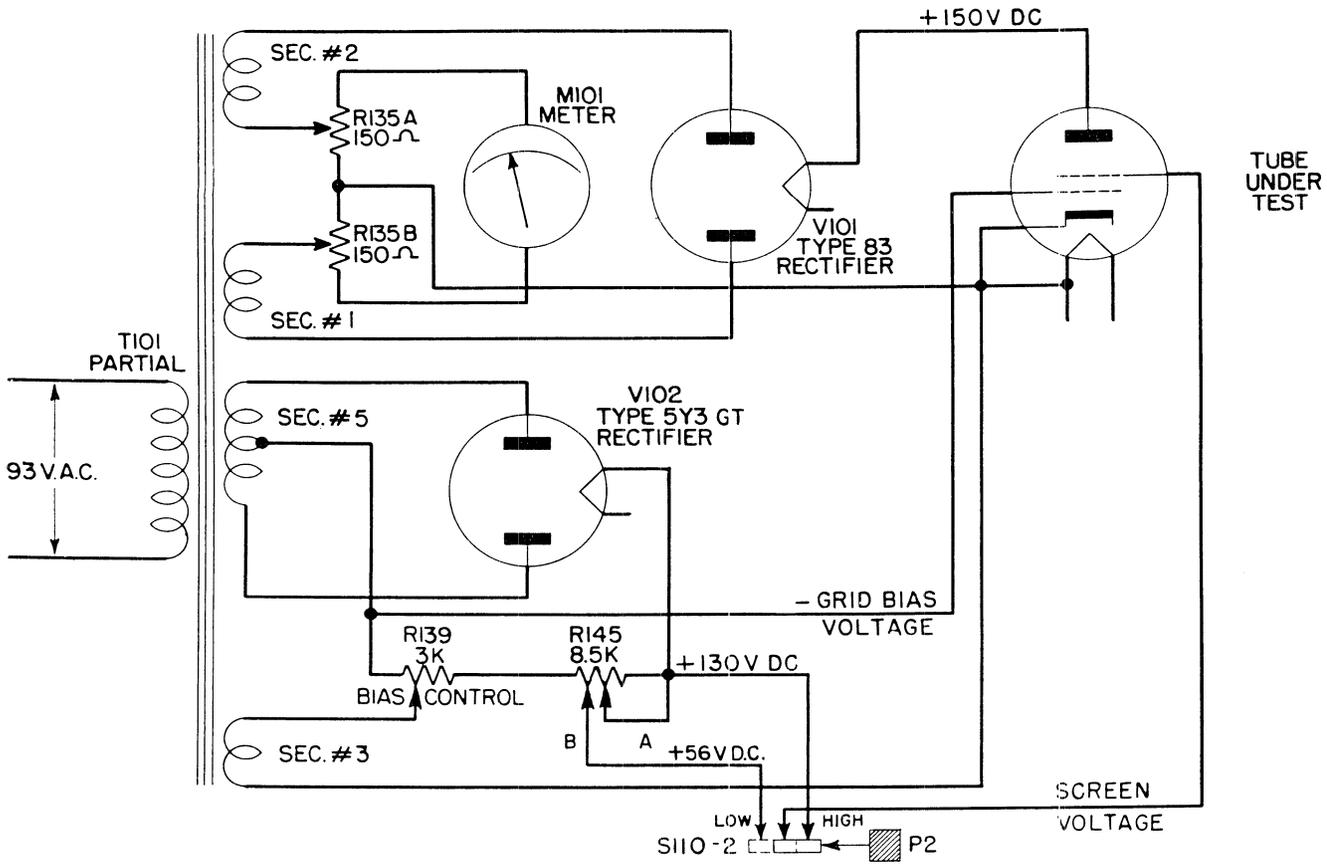

Figure 2-7. Simplified Mutual Conductance Test Circuit
(See Figure 2-7)
f. The normal screen voltage of 130 volts is excessive for testing certain tubes such as type 1R5. In such cases it is necessary to press push-button P-2 before pressing the red push-button P-3. Pressing P-2 operates switch S-110-2 and reduces the screen voltage to approximately 56 volts as illustrated by Figure 2-7.